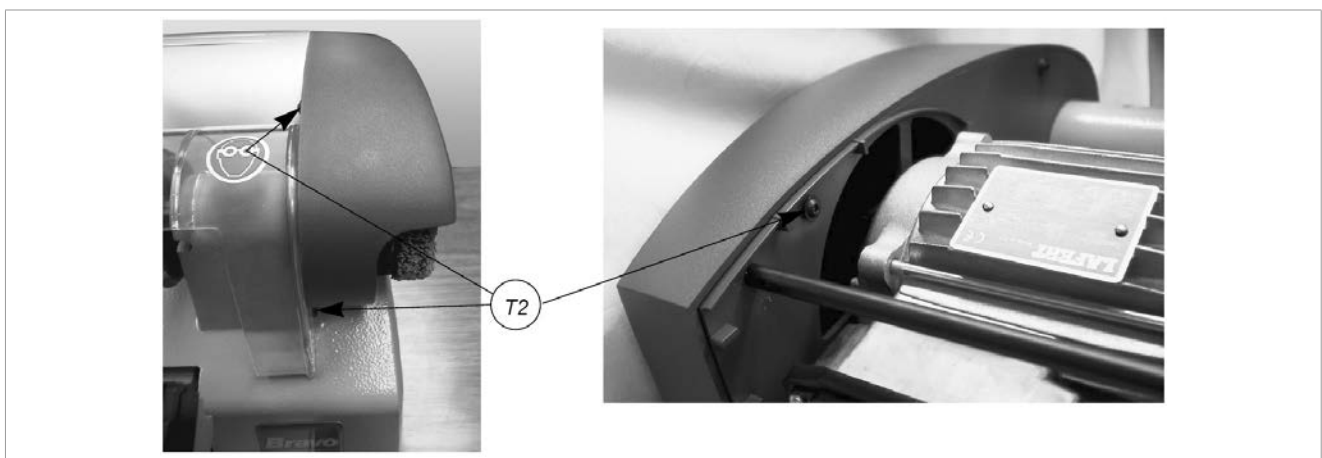

Fig. 37
- 4) Loosen the 3 screws (T2) (Fig. 37) on the belt cover and remove (pull out towards the front of the machine).
- 4) Loosen the 3 screws (T2) (Fig. 37, page 26) on the belt cover and remove (pull towards the front of the machine).
- 6) Replace the belt cover and fix with the 3 screws (T2) (Fig. 37).
- 7) Loosen the 3 screws (T2) (Fig. 37, page 26) on the belt cover and remove (pull towards the front of the machine).
- 16) Replace the belt cover and fix with the 3 screws (T2) (Fig. 37, page 26).